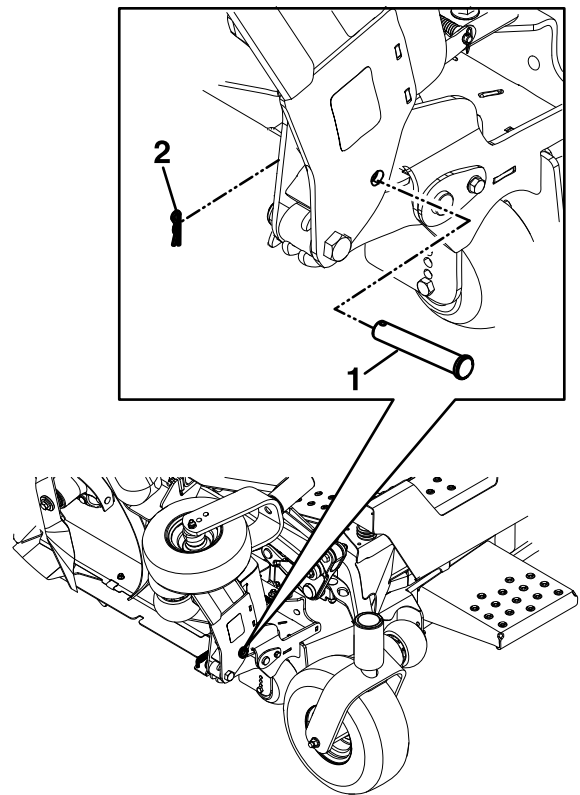

Figure 24
5. Remove the clevis pin and hairpin cotter from the storage location and secure each wing in the upright position (Figure 24).